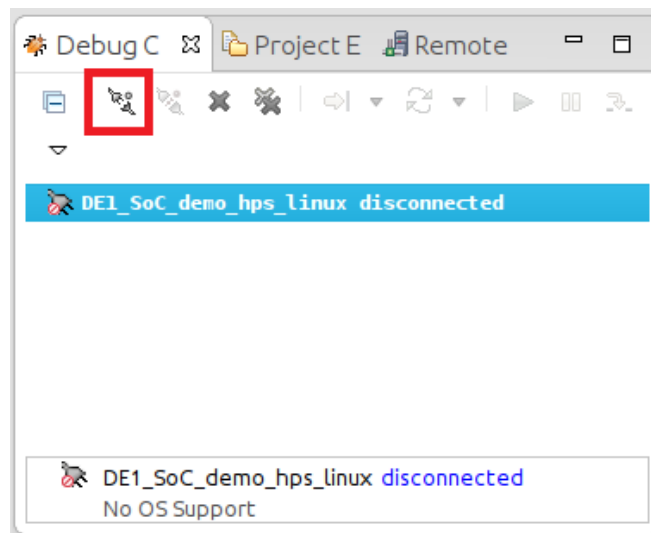

Figure 8-67. Debug Control View
27. In the "Debug Control" view, click on the "DE1_SoC_demo_hps_linux" entry, then click on the "Connect to Target" button, as shown on Figure 8-67. The debugger will start an SSH connection to the Linux distribution running on the DE1-SoC and will automatically transfer our binary file and wait at our application's "main()" function.